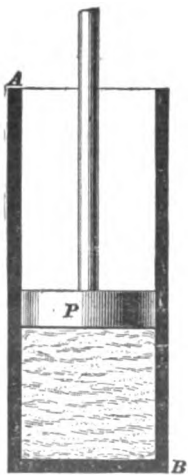

FIG. 2.
**30. Rise of Temperature.**—Suppose a cylinder  $AB$ , Fig. 2, fitted with a piston  $P$ , and half filled with water at a temperature of  $30^{\circ}\text{F}.$ , is placed on a fire. Heat will be communicated to the water and will increase the velocity of its molecules; that is, their kinetic energy will increase, and if a thermometer is placed in the water, it will indicate a rise of temperature. One effect of heat, therefore, is to raise the temperature of the body to which it is applied.
**32. Limit of Temperature.**—Suppose the piston, Fig. 2, is now removed from the cylinder, and a thermometer suspended in the water. As heat is applied to the cylinder, the thermometer will show a gradual rise in temperature until  $212^{\circ}$  F. is reached, after which the temperature will remain constant, no matter how much heat is applied. Before  $212^{\circ}$  F. is reached, most of the heat was spent in raising the temperature of the water, and but little in increasing the distance between its molecules. Afterwards, however, all the heat is used in overcoming the attraction of the molecules for one another, and in separating them so far that they no longer attract, but actually repel one another. In other words, the heat is used in changing the water into a vapor called *steam*.
**36.** Suppose the piston, Fig. 2, had been allowed to remain in the cylinder while the water was being changed into steam. Steam at 212° F. occupies nearly 1,700 times the space that its water originally occupied; hence, the piston would be lifted in the cylinder to make room for the steam that was being formed. To raise the piston, however, work must be done. Here, then, is an example of work being done by heat. On the other hand, *work will produce heat*. If two blocks of wood are rubbed briskly together, they will become warm, and may even ignite and burn. The work of friction causes the journals and bearings of fast-running machines to heat. An iron rod may be raised to a considerable heat by pounding it on an anvil. The work done by the driver brake in holding the engine back